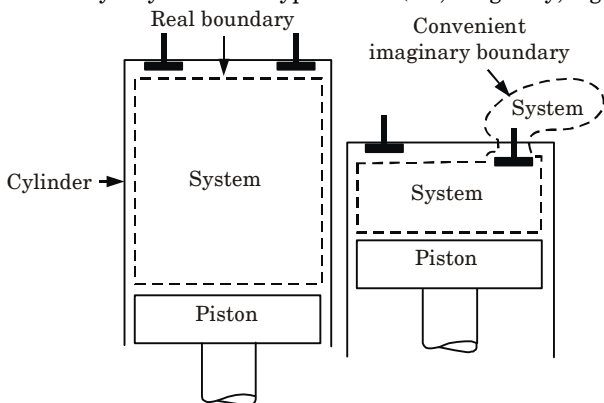

Fig. 1.1.1. A system boundary may be real or imaginary.
2. The boundary may be real or hypothetical (*i.e.*, imaginary, Fig. 1.1.1).